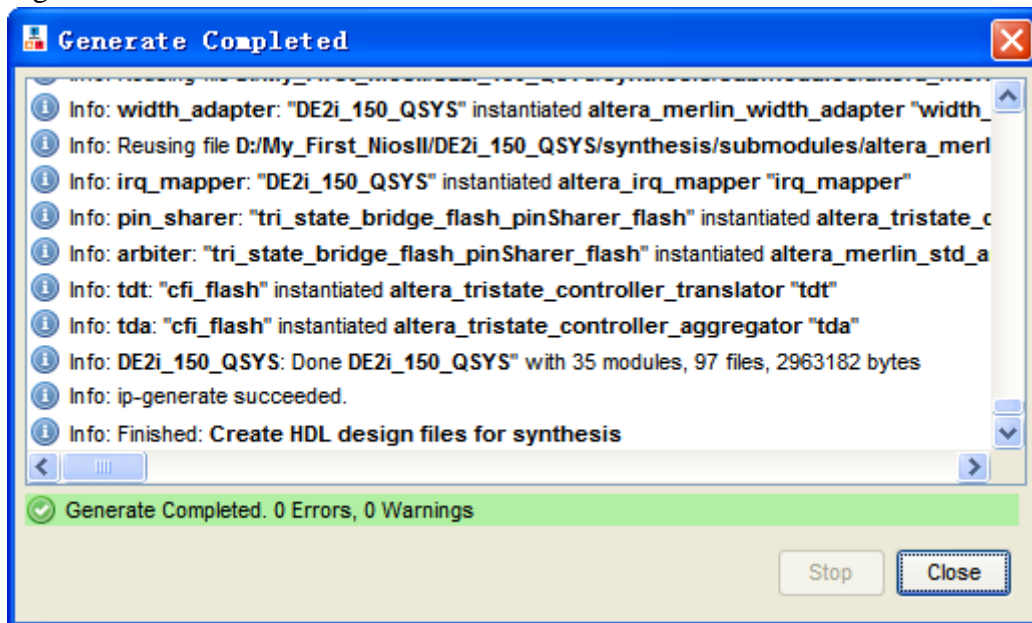

Figure 3-21 Generate Qsys
- Choose **System > Auto-Assign Base Addresses**, then click **Generate** to generate the Qsys as shown in Figure 3-21.